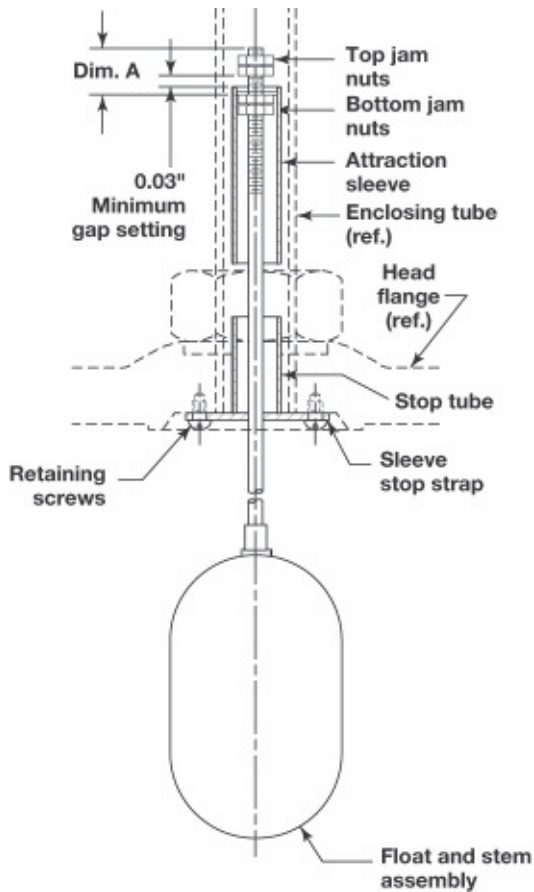

Figure 11
NOTE: New float and stem kits are supplied unassembled. For standard jam nut settings (dimension A) refer to Figure 11 and Table 1.
- 4.3 Set attraction sleeve per dimension A as shown in Figure 11.